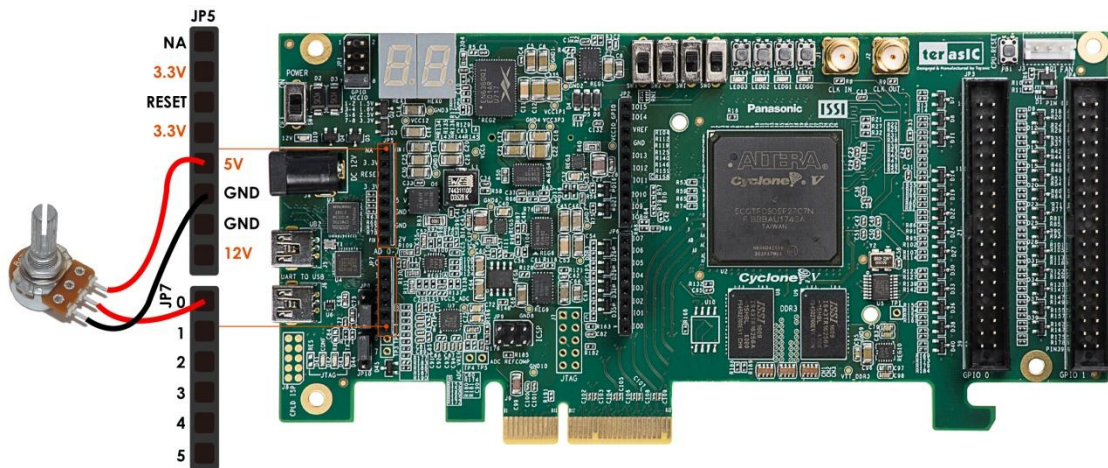

Figure 5-20 ADC Reading Demo hardware setup
- As shown in **Figure 5-20**, connect the Trimmer Potentionmeter to corresponding ADC channels on the Arduino IO header. **Please make sure working on the ADC channels (AD4 or AD5) by referring to Table 3-12.** Conenct the Trimmer Potentionmeter input to JP5 5V(Pin5) & GND(Pin6 or Pin7), and connect the output to channel 0 (JP7 Pin1).